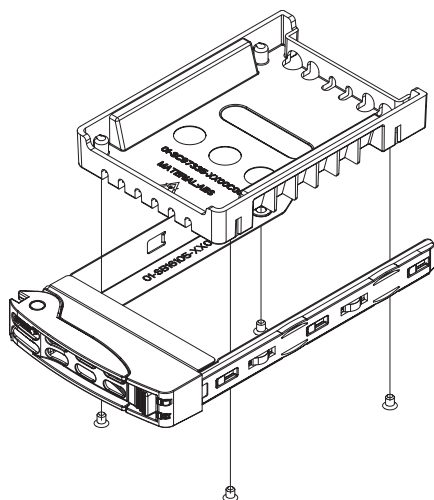

Figure 5-5. Removing Dummy Drive from Carrier
3. Remove the dummy drive from the carrier (Figure 5-5)..